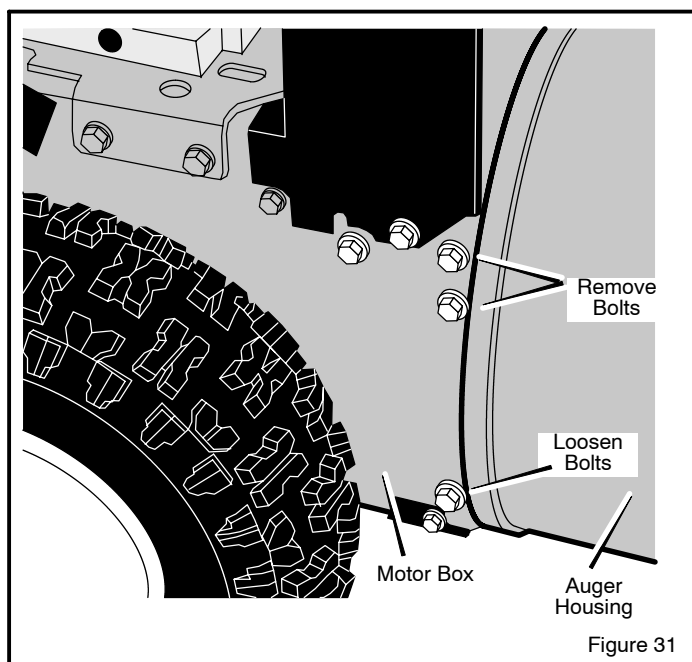

Figure 31
8. Remove the top four **bolts** that hold together the **auger housing** and the **motor box**. Loosen the bottom two **bolts**. The **auger housing** and the **motor box** can now be split apart for removal of the belt (see Figure 31).